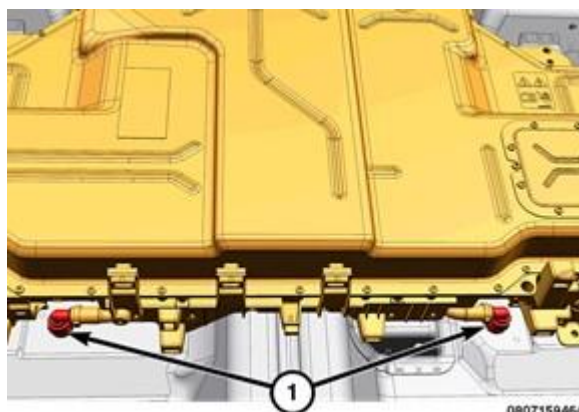

Figure 36 – HV Battery Coolant Connectors
39. Disconnect and plug the HV battery coolant line connectors (1) (Figure 36).
30. Install the chassis ground cable to the HV battery ground stud (1) and tighten to 9N·m (80 in. lbs.) (Figure 36).